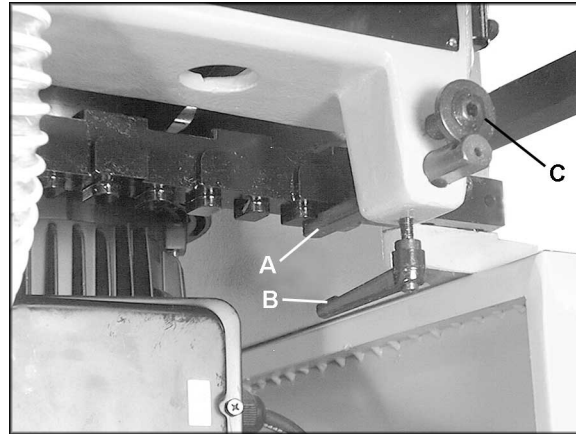

Figure 24
To adjust the thickness of the tenon (male) cuts, you will change the depth of the tracer pin (A, Figure 24).
2. Loosen the locking handle (B, Figure 24).
3. Insert a 5.5mm hex wrench into the end of the adjustment screw (C, Figure 24) and turn the adjustment screw as needed. To decrease the thickness of the tenon cut, turn the adjustment screw counterclockwise. To increase the thickness of the tenon cut, turn the adjustment screw clockwise.
4. Tighten locking handle (B, Figure 24).